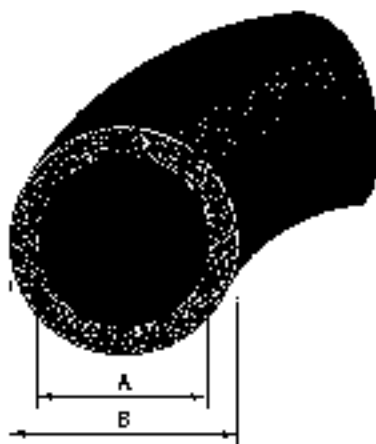

Figure 14-7:
- **The diameter, color, and length of the hose:** Most hoses are sold by their *inside* diameter (see Figure 14-7), so you may have to disconnect one end of the hose, measure its inside diameter, and reconnect it in order to drive to the store.